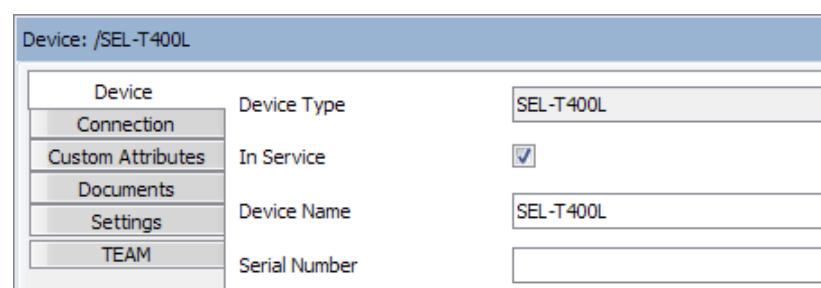

Figure 76 Set Device to In Service
Step 3. Select the **Device** tab, select **Edit**, and select the **In Service** check box, as shown in *Figure 76*.